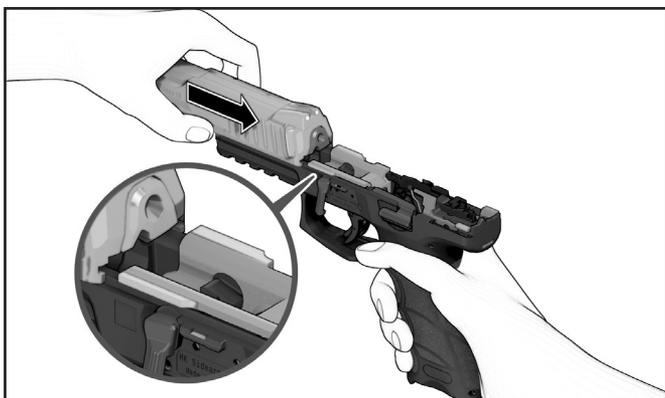

Figure 31 – Mounting the slide on the frame
6. Mount the slide onto the frame, ensuring that the recoil spring is centered underneath the barrel, and that the rails on the frame are inserted into the grooves on the bottom of the slide (see Figure 31).